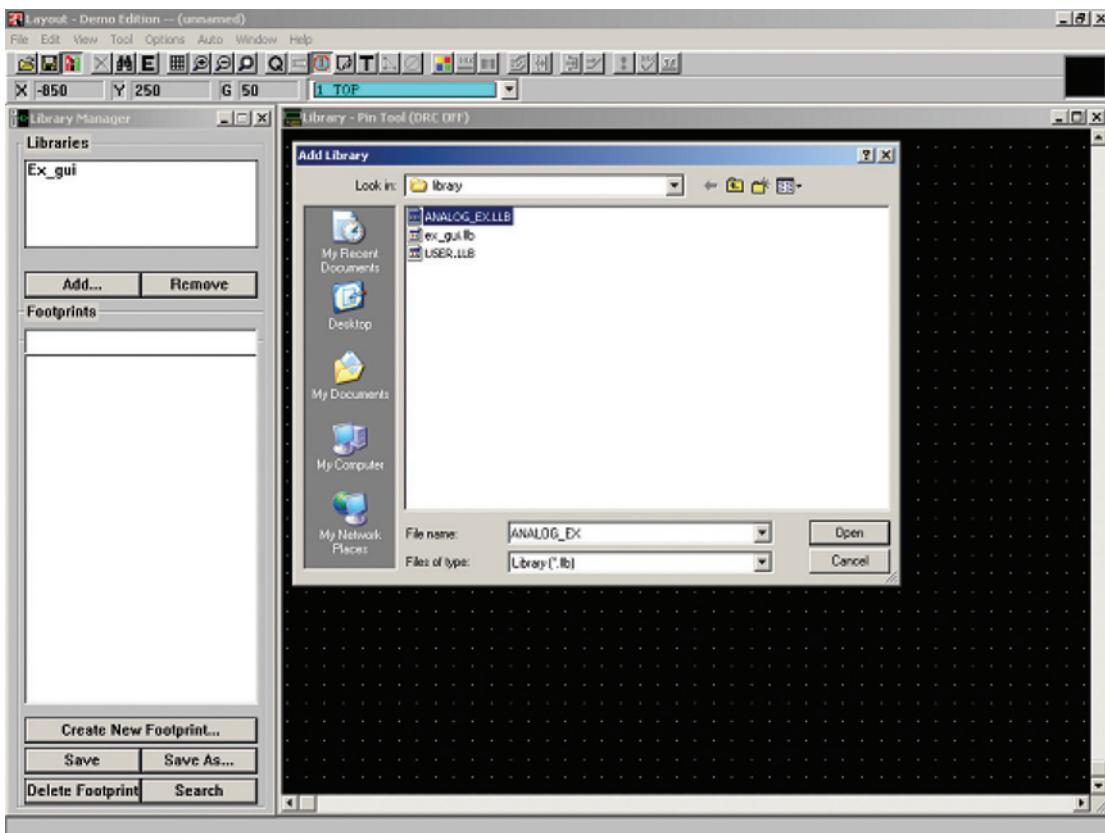

Figure 9-1 Adding the analog example footprint library.
**Layout/Library** folder. After you copy it into the folder you will have to let Layout know that it is there by adding it to the library list. To do so, open Layout and, from the session frame, select **Library Manager** from the **Tools** menu. In the Library Manager click the **Add...** button located under the Libraries list box. From the **Add Library** dialog box select the **ANALOG\_EX.LLB** library, and click the **Open** button. **ANALOG\_EX** should now be displayed in the Libraries list box. You can now close the Layout Library Manager window (Fig. 9-1).